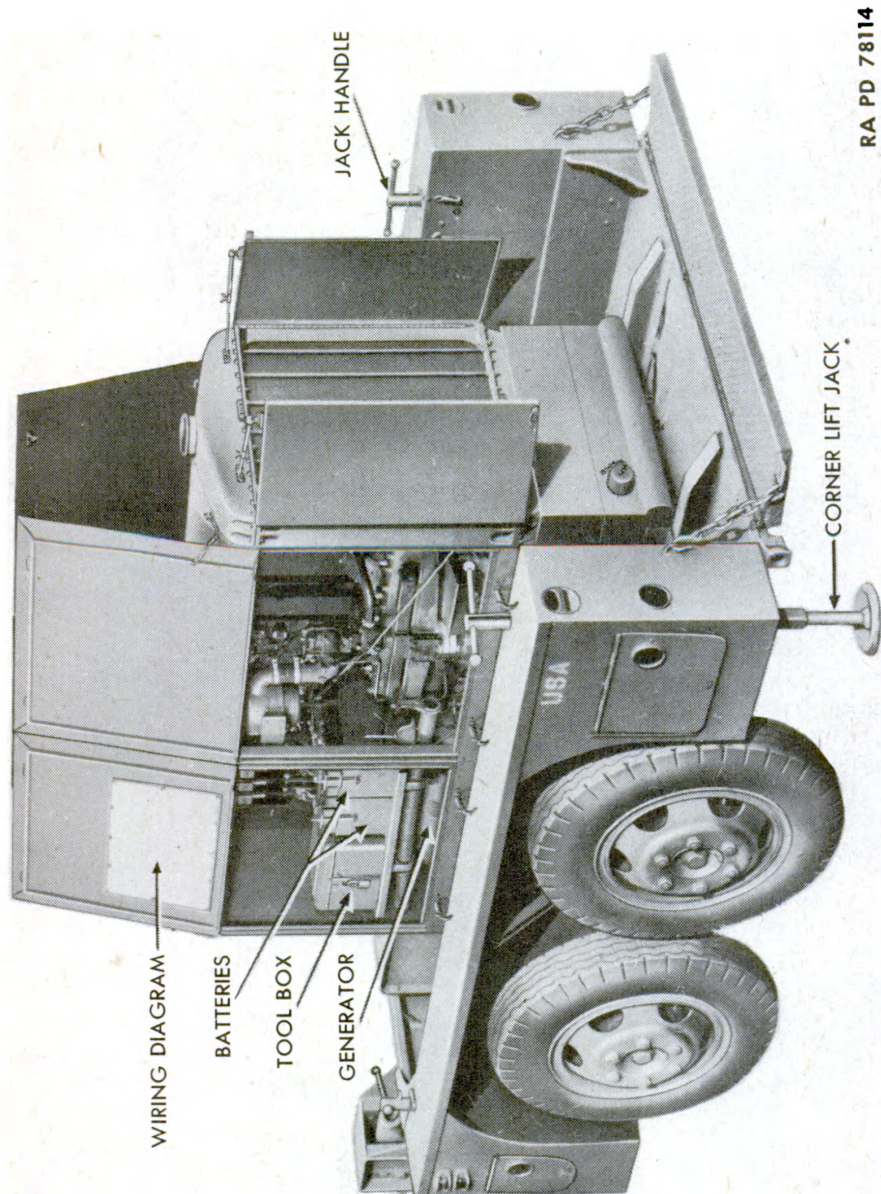

Figure 4 — Generating Unit M18 and Generator Trailer M7 — All Doors Open
c. The Generator Trailer M7, illustrated in figures 3 and 4, is designed primarily for travel on highways, and to afford a solid operating foundation for the generating unit. Four built-in corner lift jacks (fig. 4) give firm ground contact, and lift the weight off springs and tires.